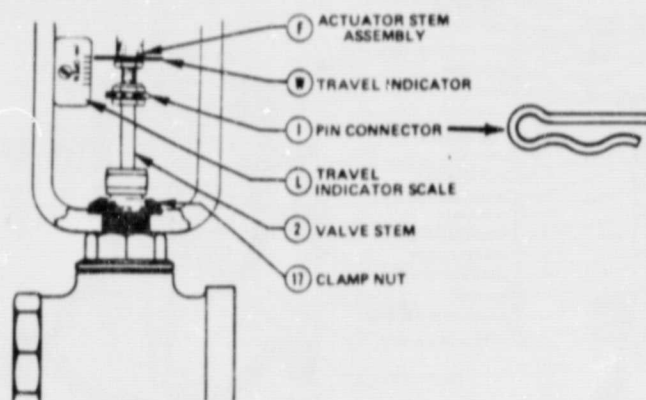
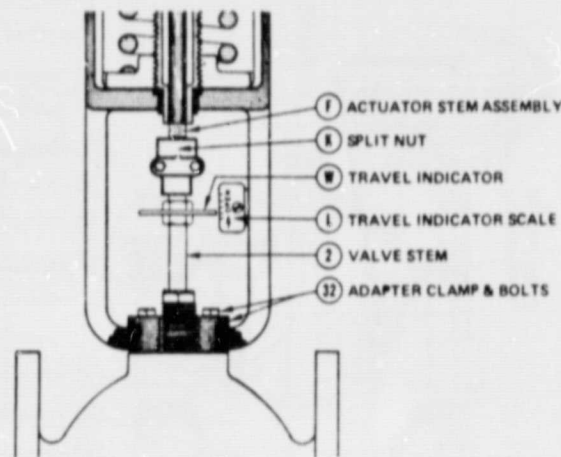

Figure 7A – VALVE STEM ATTACHMENT
Figure 7B – VALVE STEM ATTACHMENT
1. For sizes through 2" with 30 sq. inch DA actuator. (Fig. 7A)
- a. With no pressure on the actuator remove Pin Connector (1) and adjust position of Travel Indicator Scale (L) so the valve open mark is aligned with Travel Indicator (W).
- b. Raise Valve Stem (2) through rated stroke. When this is done, adjust Stem Connector to align holes in Stem (2) and Stem Connector. Replace Pin Connector (1).
2. For sizes through 2" with 30 sq. inch RA actuator. (Fig. 7A)
- b. Remove Pin Connector (1).
- c. With no pressure on actuator, move Valve Plug against seat. Adjust Stem Connector so that the hole through it is approximately 1/16" below hole in Valve Stem (2).
- d. Apply air pressure until the two holes are aligned and replace Pin Connector (1).
- e. Exhaust air from actuator and adjust position of Travel Indicator Scale (L) so "Valve Closed" mark is aligned with Travel Indicator (W).
3. For sizes 2-1/2"–4" with 30 sq. inch DA actuator or 80 sq. inch actuator (Fig. 7B)
- a. With no pressure on the actuator, disconnect Split Nut (K) and place Valve Plug Assembly on seat.
- b. Adjust the Travel Indicator (W) so it aligns with the "valve closed" mark on Travel Indicator Scale (L).
- c. Lift Valve Plug Assembly the rated lift (to valve open mark) and secure it to the Actuator Stem (F) with Split Nut (K). Fine stroke adjustment may be obtained by loosening the Split Nut (K) slightly and screwing the
4. For sizes 2-1/2"–4" with 30 sq. inch RA actuator (Fig. 7B)
- b. Disconnect Split Nut (K).
- e. Secure Valve Stem (2) to Actuator Stem (F) with Split Nut (K).
- f. Adjust Travel Indicator (W) so it aligns with "valve closed" mark on Travel Indicator Scale (L).
1. For sizes 2-1/2"–4" with 80 sq. inch actuator only (Fig. 7B)
- c. With no pressure on the actuator, raise Valve Stem (2) until Valve Plug Assembly touches seat.
- d. Adjust Travel Indicator (W) so it aligns with "valve closed" mark on Indicator Scale (2).
- e. Apply air to move actuator about 1/16" off stop and secure Valve Stem (2) to Actuator Stem (F) with Split Nut (K).
- f. Exhaust air from actuator and readjust Indicator (W) if necessary.